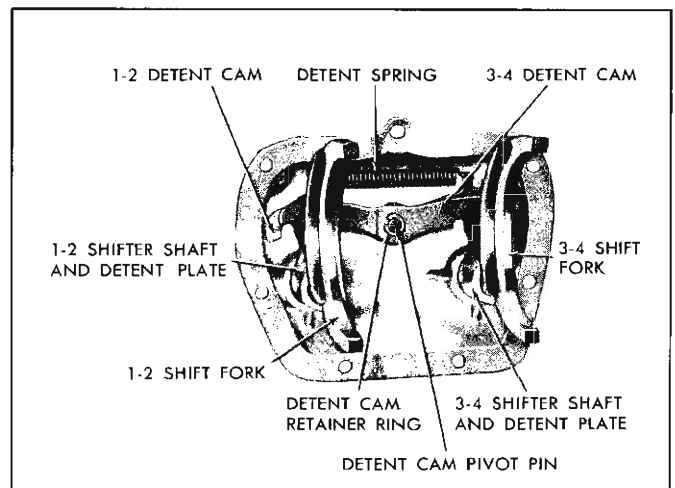

Fig. 3M—Transmission Side Cover, Shift Fork and Detent Assembly
**Disassembly (Fig. 3M)**
**Assembly (Fig. 3M)**